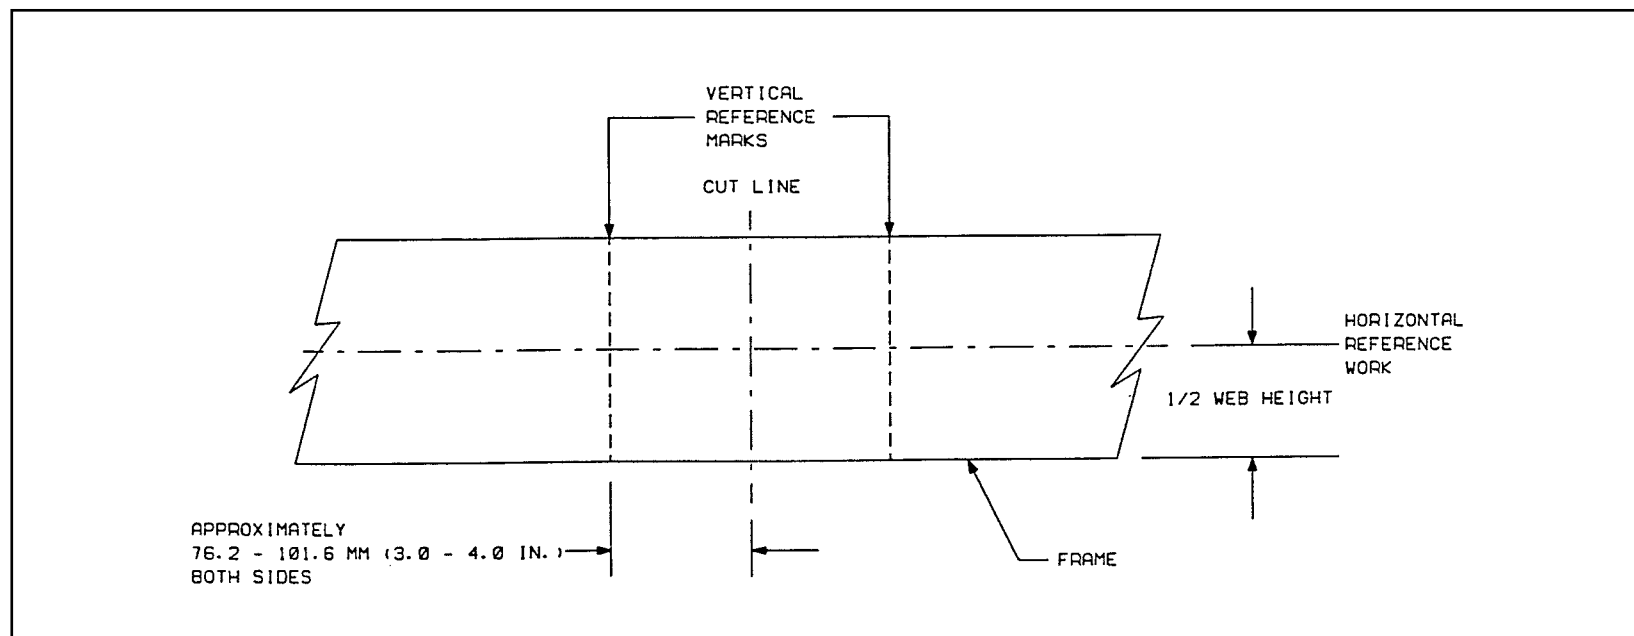
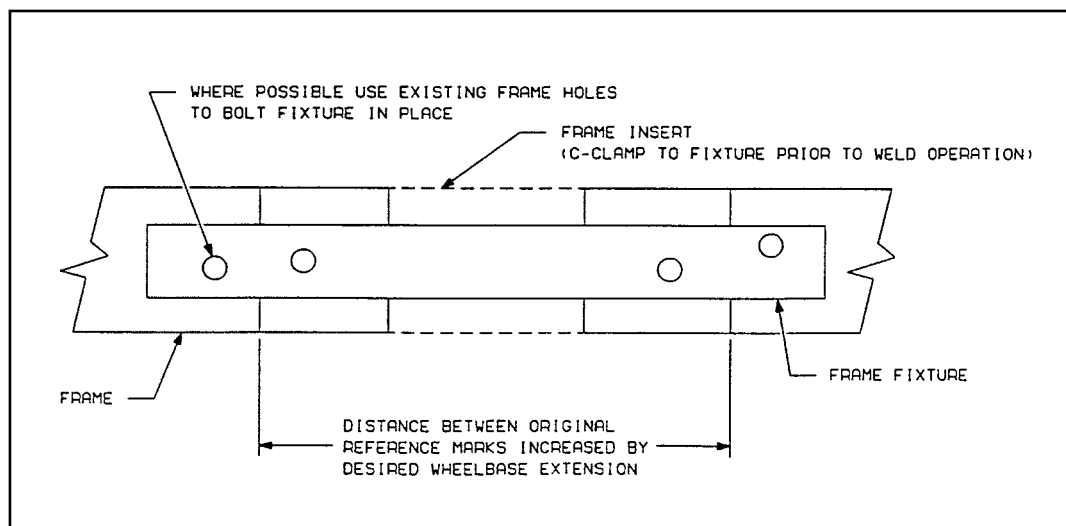

Figure 2
Figure 4
4. Scribe or mark the frame for cutting (Figure 2). Record all dimensions for gauging or fixturing on the Frame Splice Process Check-List.
5. Fixture and clamp the insert to ensure correct alignment (Figure 4). Make dimensional checks against predetermined reference marks (as shown earlier in Figure 2) to prevent possible error.